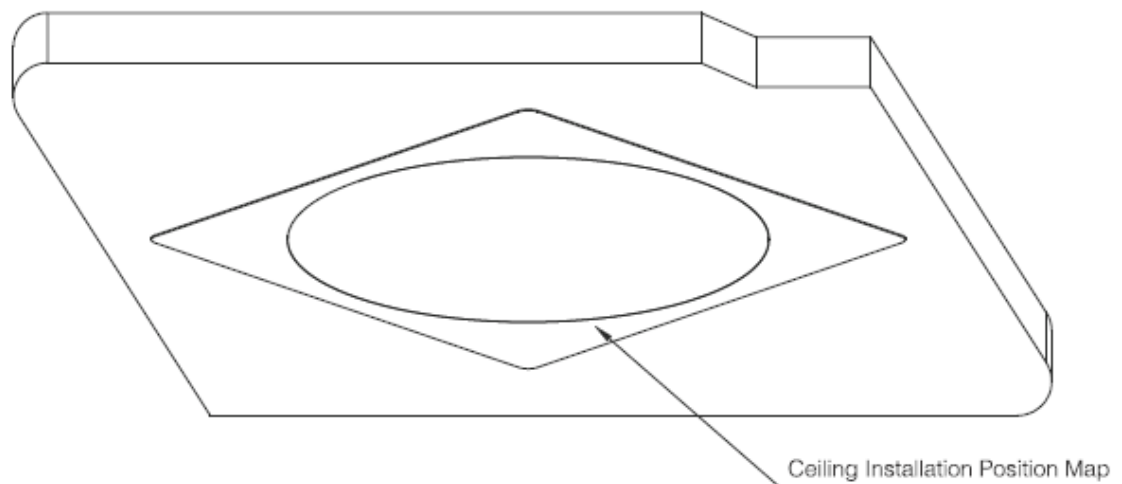

Figure 3-6
- 1) Please refer Figure 3-6, confirm the installation position and then use the ceiling installation position map to dig holes in the ceiling.